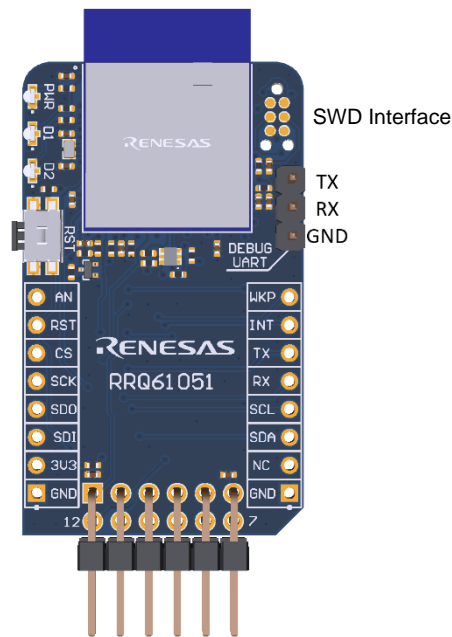

Figure 18. QCIOT-RRQ61051EVZ Board DEBUG UART
- Hardware: QCIOT-RRQ1EVZ, see Figure 18